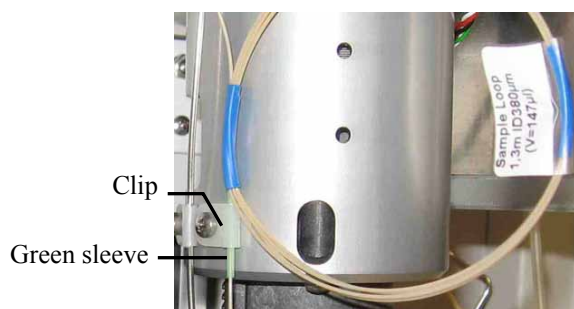

Fig. 54: Correctly installed sample loop
- ◆ Make sure that the green sleeve is in the clip on the injection valve support (→ Fig. 54). Only then, the sample loop is installed correctly.